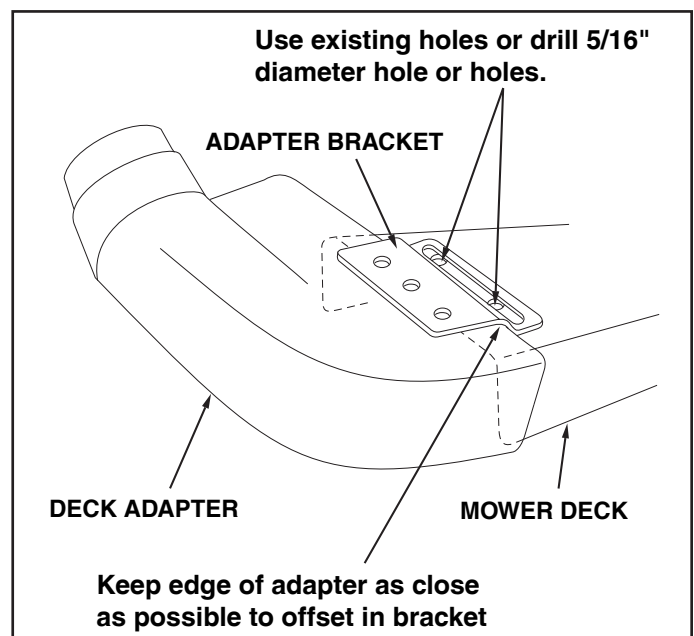

FIGURE 17
- Holding the adapter bracket and the deck adapter together, position the deck adapter on the mower deck. Keeping the edge of deck adapter as close as possible to the offset in the adapter bracket, see if the slot in the adapter bracket can be aligned with one or two of the deflector holes in your mower deck's discharge opening. If the bracket can not be located correctly using existing holes, it will be necessary to drill one or two 5/16" diameter holes in the deck. See figure 17.